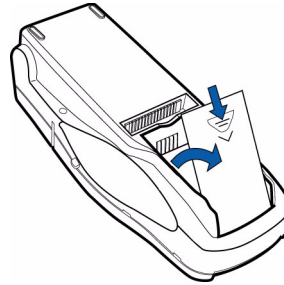

Figure 9 Open the MSAM Access Door
- 2** Open the MSAM door located beneath the battery (Figure 9):